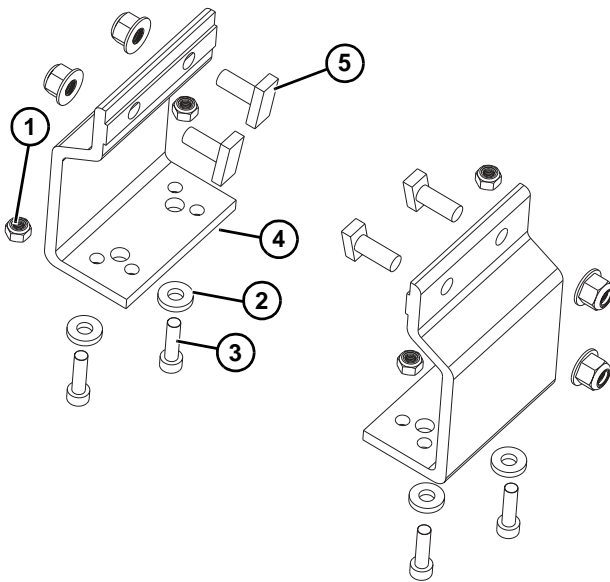

**Figure 14**
- Unroll wear strip (**Figure 14, item 1**).
- Guide wear strip into channel (**Figure 14, item 2**) on conveyor frame.